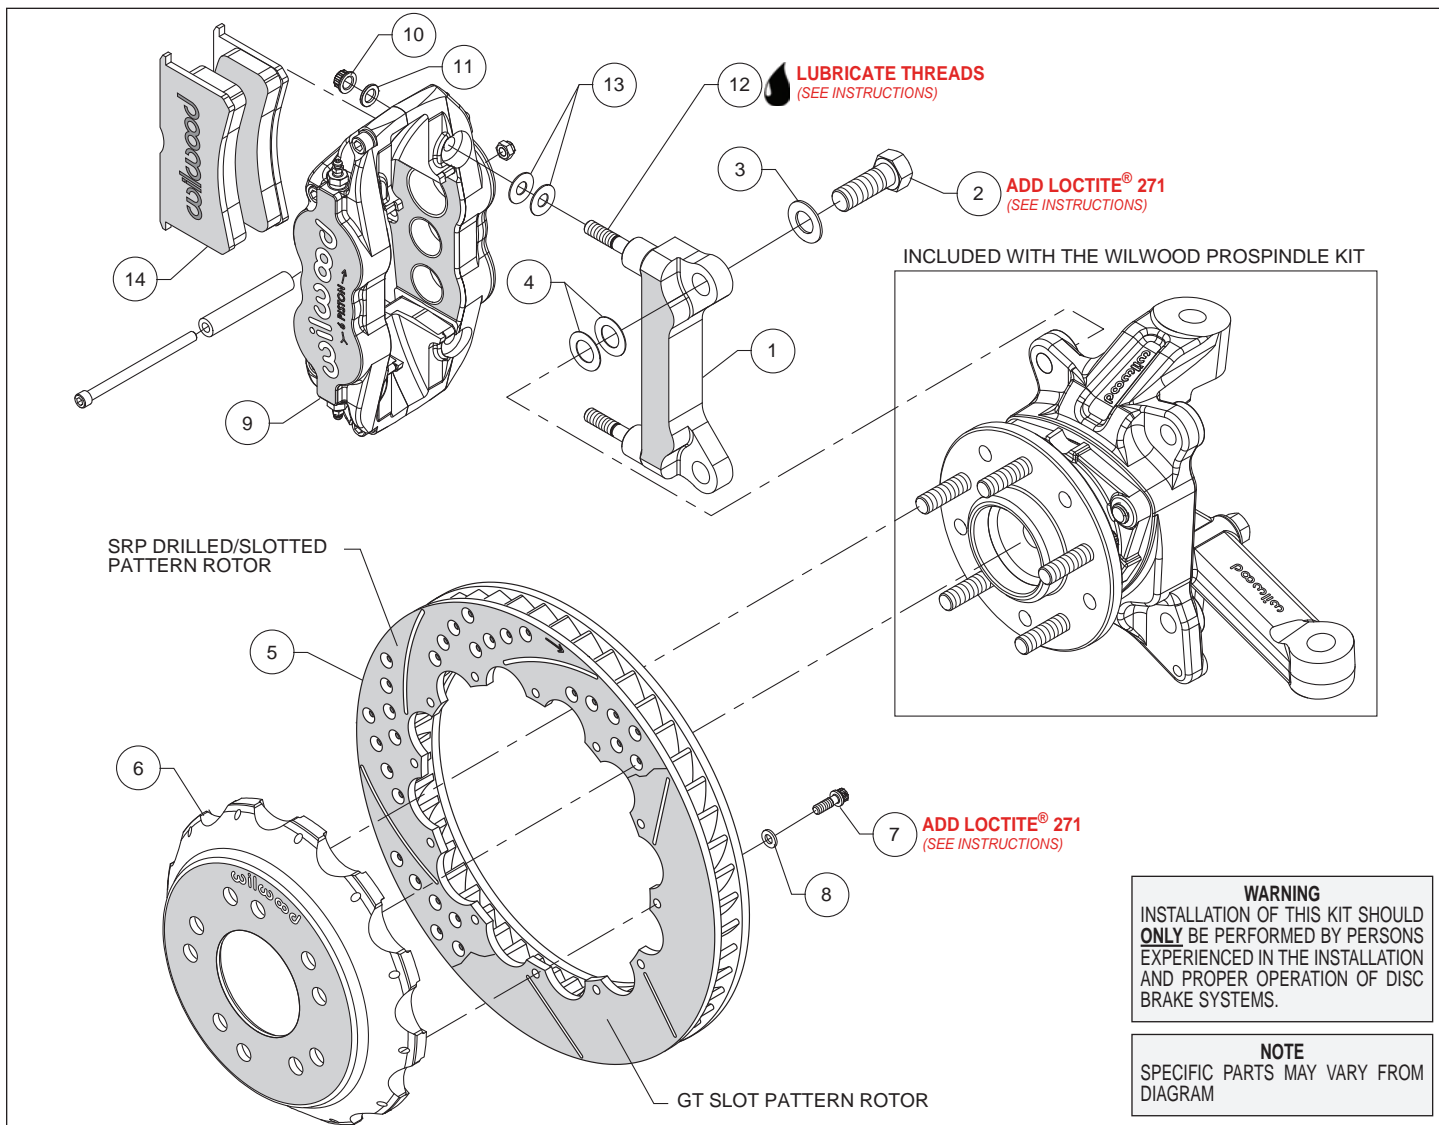
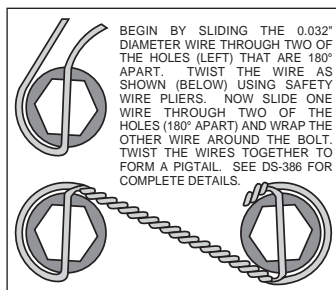

Figure 1. Typical Installation Configuration
Figure 3. Safety Wire Diagram
**Assembly Instructions** (numbers in parenthesis refer to the parts list and Figure 1 on the preceding pages):
- The caliper mount bracket (1) should initially be installed with clean, dry threads on the mounting bolts. Orient the bracket as shown in Figure 1 and Photo 1 and install using mount bolts (2) and washers (3). Initially place two .024" thick shims (4) on each bolt between the bracket and spindle, Figure 1. Temporarily tighten the mounting bolts. **NOTE:** The bracket must fit squarely against the mounting points on the spindle. Inspect for interference from casting irregularities, machining ridges, burrs, etc. Later, after the caliper alignment has been checked, the mount bolts will be secured using red Loctite® 271.
- Orient the rotor (5) and the hat (6) as shown in Figure 1 and Photo 2. Attach rotor to hat using bolts (7) and washers (8). Using an alternating sequence, apply red *Loctite*® 271 to the threads, and torque to 155 **in-lbs**. For an added measure of security, the bolts may be safety wired using standard 0.032 inch diameter stainless steel safety wire as shown in Figure 3. Please refer to Wilwood's data sheet DS-386 (available at [www.wilwood.com/Pdf/DataSheets/ds386.pdf](http://www.wilwood.com/Pdf/DataSheets/ds386.pdf)) for complete safety wire installation instructions.
- **NOTE:** *This kit contains distinct right and left hand calipers that must be mounted in a specific direction, as described below.* Lubricate the caliper mounting studs (12) with lightweight oil. Initially place two .035" thick shims (13) on each stud between the caliper and the bracket, as shown in Figure 1 and Photo 5. Mount the caliper (9) onto the bracket (1) using lock nuts (10) and washers (11), Figure 1. Ensure that the caliper is mounted so the largest pistons are at the rotor exit end of the caliper, in relation to the direction of rotor rotation. Temporarily tighten the lock nuts and view the rotor through the top opening of the caliper. The rotor should be centered in the caliper, Photo 6. If not, adjust by adding or subtracting shims (4) between the bracket and the spindle. Always use the same amount of shims on each of the two mounting bolts. Once the caliper alignment is correct, remove the bracket mounting bolts one at a time, apply red *Loctite*® 271 to the threads, and torque to 140 ft-lb.